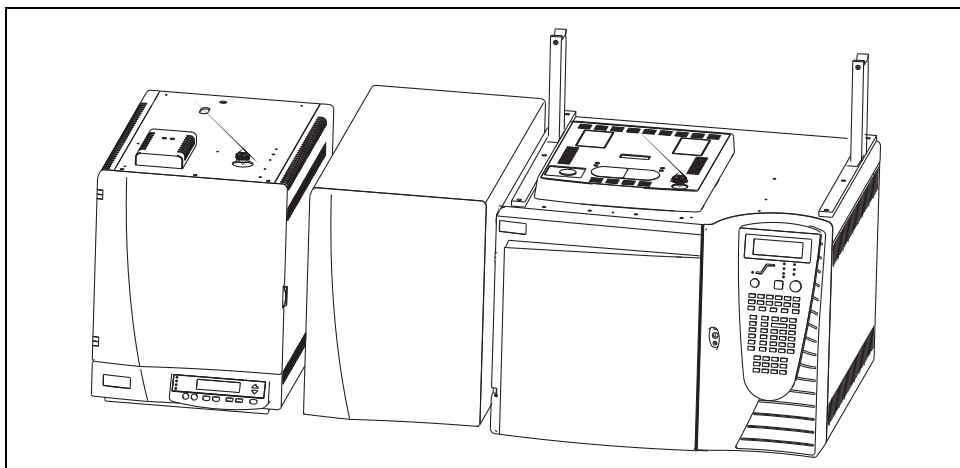

Figure 3-19. TRACE GCs Ultra, FOCUS GC and MS Placing
6. Place the two GC units beside the MS detector as shown in Figure 3-19.